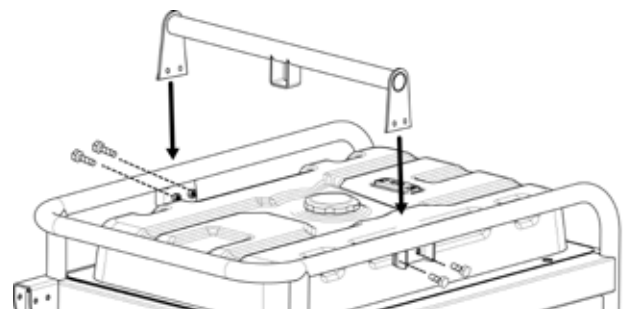

Figure 4 - Install lift bracket on WPro12000
3. Locate negative (-) cable attached to alternator cable, remove tie and route to the negative (-) battery post. See figure 4 below for location of negative (-) cable.